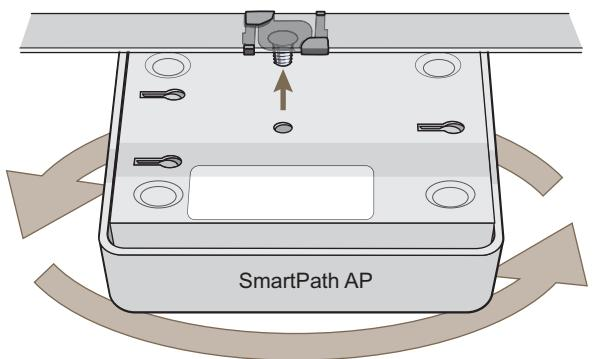

Figure 4-6. Attaching the SmartPath AP to the track clip.
4. Holding the SmartPath AP upside down, raise it until the threaded stud on the track clip enters the hole on the SmartPath AP. Then rotate the SmartPath AP until it is firmly attached to the clip (see Figure 4-6).